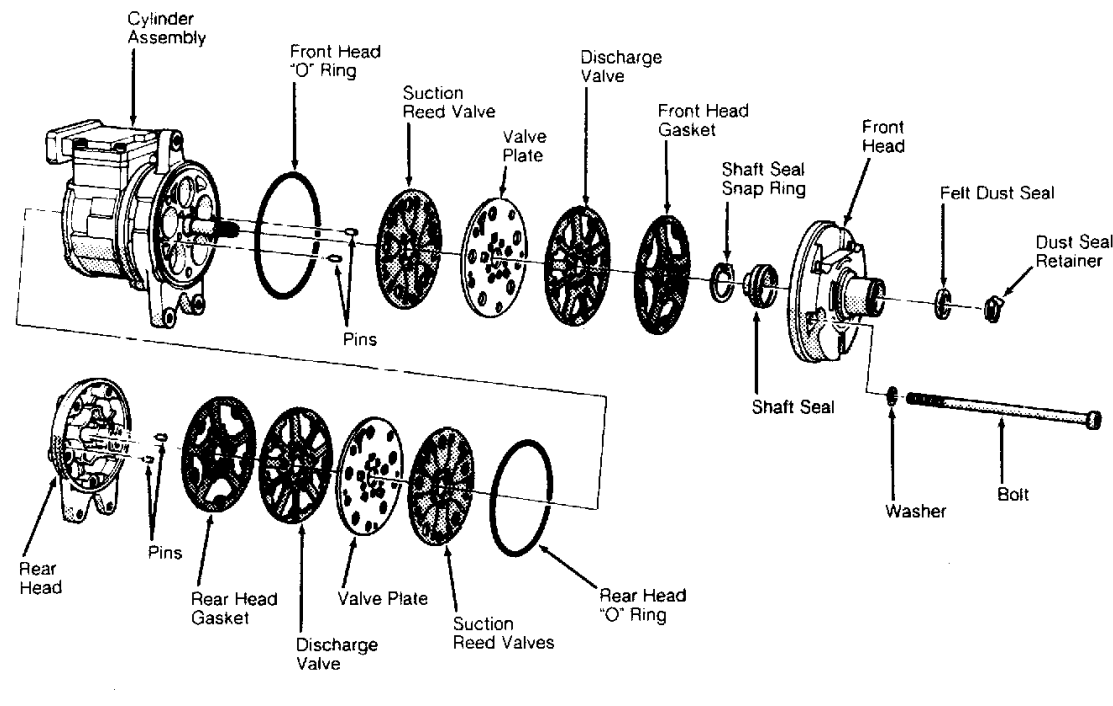

Fig. 4: Exploded View of Nippondenso 10PA17 & 10PA17A 10-Cyl Compressor
- Remove clutch assembly. See NIPPONDENSO 10PA17 & 10PA17A CLUTCH ASSEMBLY R & I in this article. Remove front head retaining bolts. Separate front head from compressor, using care not to scratch sealing surface. See Fig. 4.